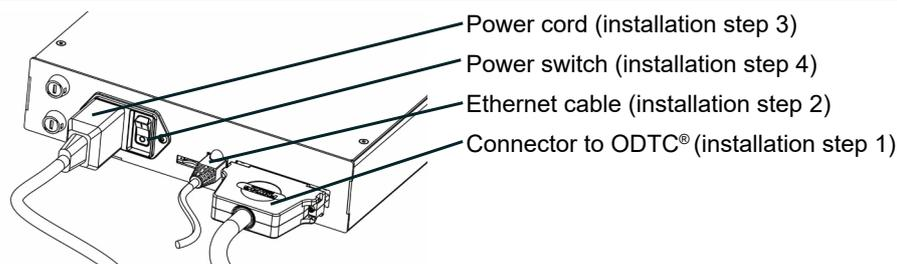

Fig.19: Connecting the ODTC® Power & Control Unit with PC and ODTC®
- Plug in the connector (→ fig. 19) of the ODTC® to the ODTC® Power & Control Unit and screw the connector tightly to the ODTC® Power & Control Unit.
- Connect the yellow Ethernet cable (RJ45) (→ fig. 19) to the ODTC® Power & Control Unit and to the Ethernet socket of your PC or robotic system.
- Connect the power cord (→ fig. 19) to the ODTC® Power & Control Unit and the wall power outlet.
- Switch on the power of the ODTC® Power & Control Unit (→ fig 19).